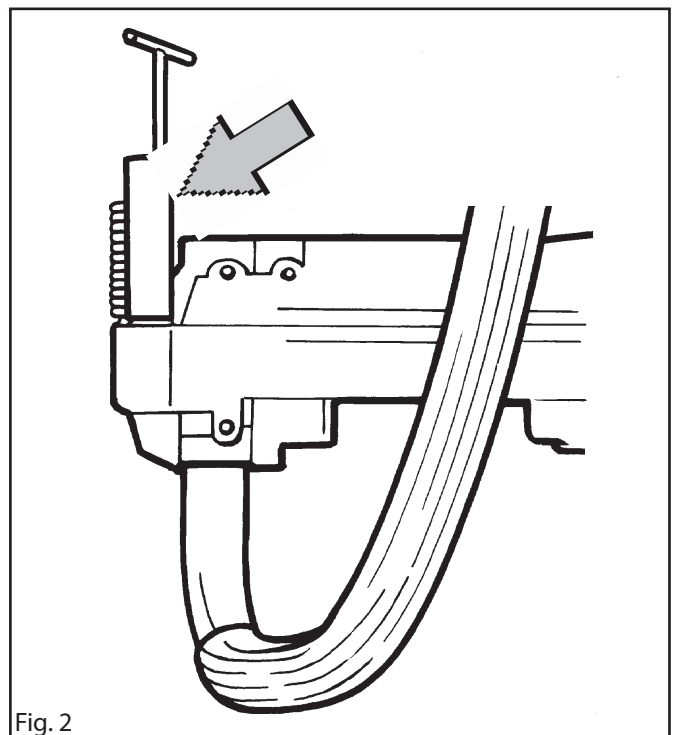

Fig. 2
3. Detach the springs from the tank unit with service tools 502 52 18-01 and 502 52 18-02. See fig. 2.
7. Remove one of the piston circlips, press out the gudgeon pin and remove the piston. See fig. 2.